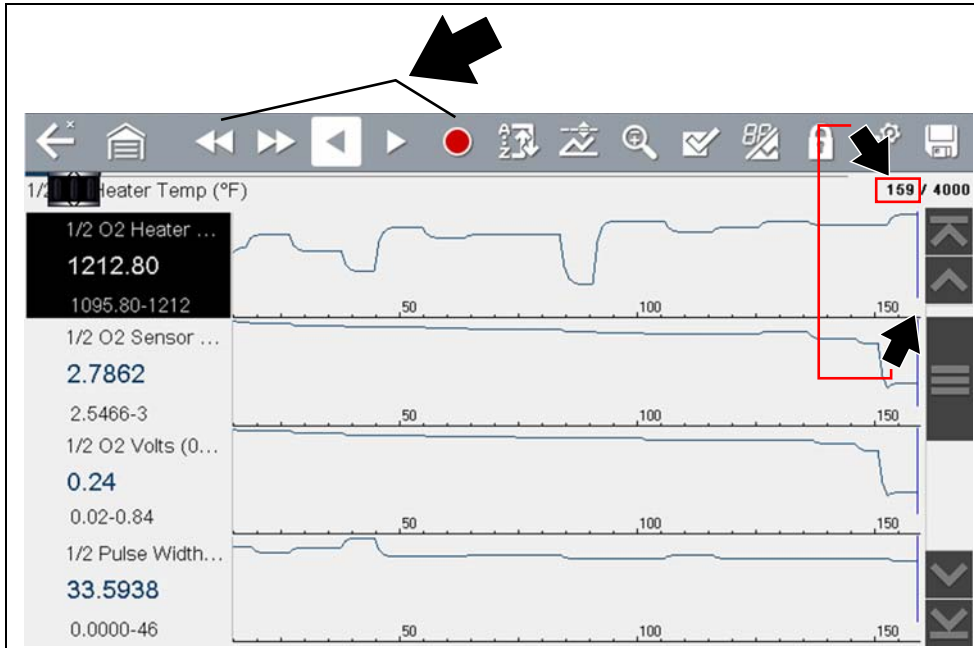

Figure 6-30
- Review control icons are displayed in the toolbar (Figure 6-30). Use the control icons to accurately move through the data and position the blue cursor.
- The blue (vertical cursor) (Figure 6-30) indicates your position in the data and is denoted by the current position value in the counter display. This cursor displays in all PIDs.